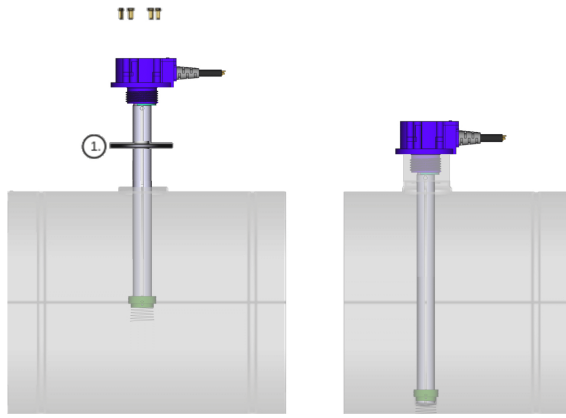

Figure 9: Mounting Arrangement
- Place the Capvel-FUEL sensor and tighten through the bolts. (Ensure that the bolt or screw heads are completely sunk into the sensor.) Refer to Figure 9.